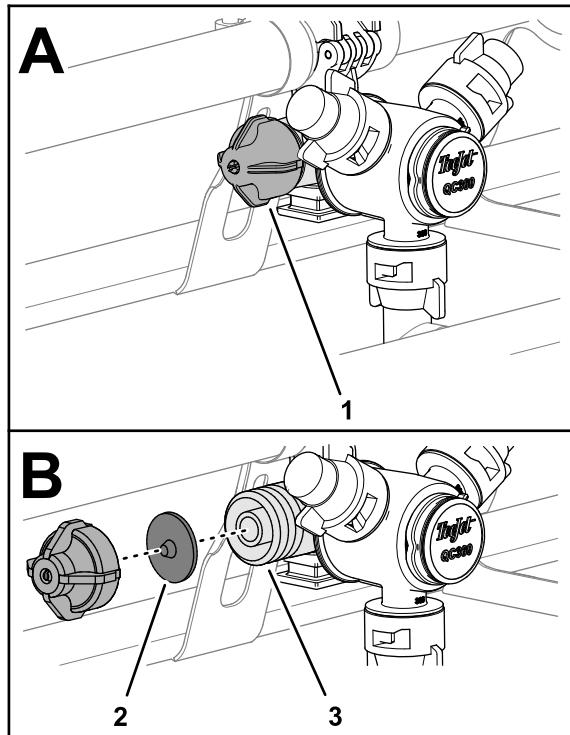

Figure 31
1. Rotate the diaphragm cap counterclockwise and remove the cap from the nozzle body (Figure 31).
2. Remove the check-valve diaphragm from the cap or nozzle body (Figure 31).
3. Clean the cap, diaphragm, and nozzle body with clean water (Figure 31).
4. Assemble the diaphragm into the cap with the nib of the diaphragm toward the cap (Figure 31).
5. Assemble the cap and diaphragm to the nozzle body and tighten by hand (Figure 31).